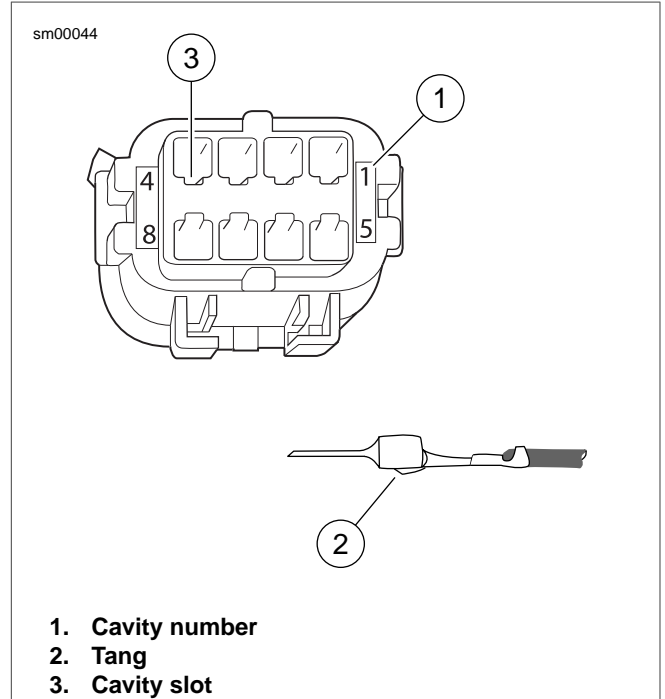

Figure A-26. Molex Connector: Pin Cavities and Wire Terminal
1. See Figure A-26. From the wiring diagram, match the wire color to its numbered terminal cavity.